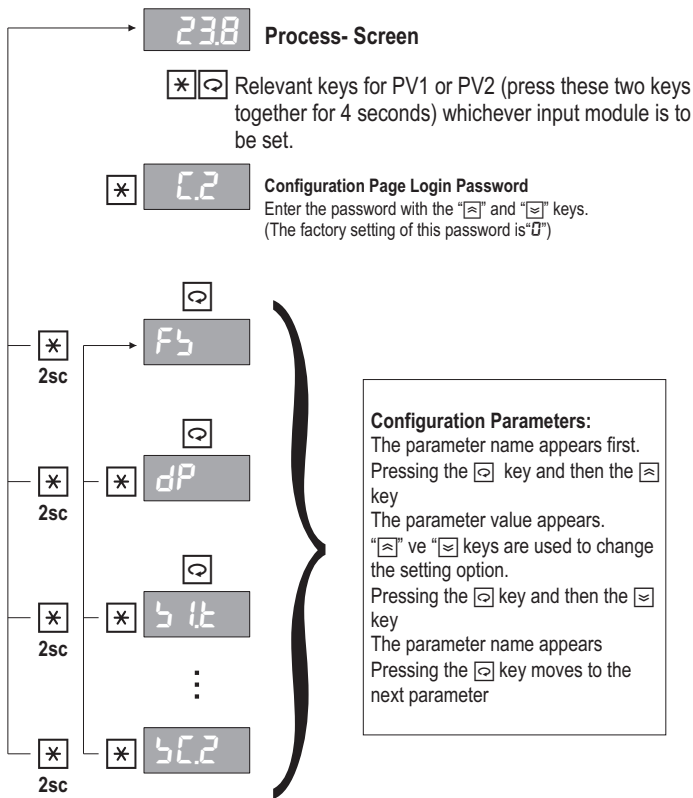

Figure -3
- ◆ **Figure-3** below is a graphical representation of these processes.